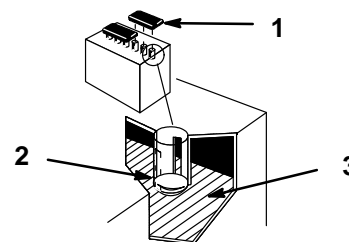

Figure 29
2. Lift off the filler caps (Fig. 29).
3. Slowly pour distilled water into each battery cell until the level is up to the lower part of the tube (Fig. 29).
2. Open covers to see into the cells. The electrolyte must be up to the lower part of the tube (Fig. 29). Do not allow the electrolyte to get below the plates. (Fig. 29).